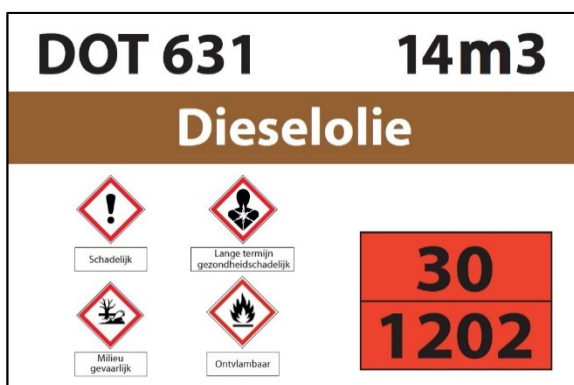

Figure 1: Standard design 1 1200x800mm
Standard design 1 (1200 x 800 mm): Figure 1, 3 & 4
- This applies to a stored medium where all marking requirements must be displayed according to paragraph 3.2.1. See the design in Figure 1: Standard design 1. Mounted on two belled posts;